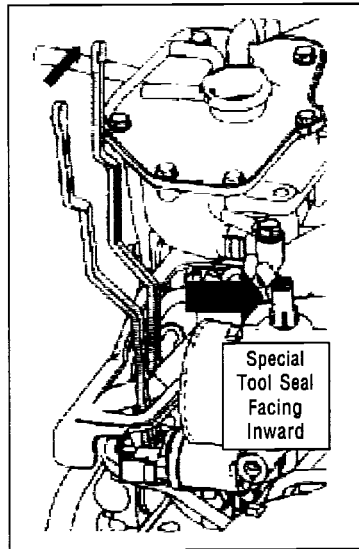

Fig.9: Insertion of Special Tool through the upper opening for Front Bolt (RH)
- When tightening the **front bolt**, the Special Tool Seal should be facing inward (as shown in Fig.9). From the paint mark on the bolt flange, turn the bolt 60 degrees (90 degrees maximum) clockwise.